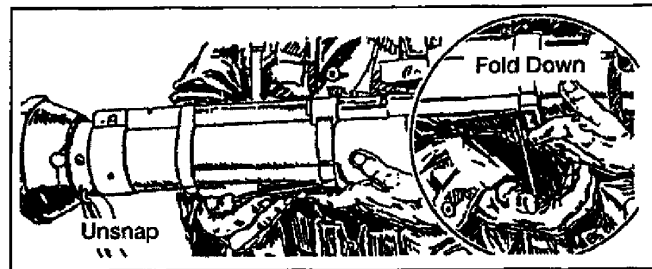

Figure 071-054-0001-4. Unsnapping the shoulder stop
c. Unsnap and unfold the shoulder stop (figure 071-054-0001-4).